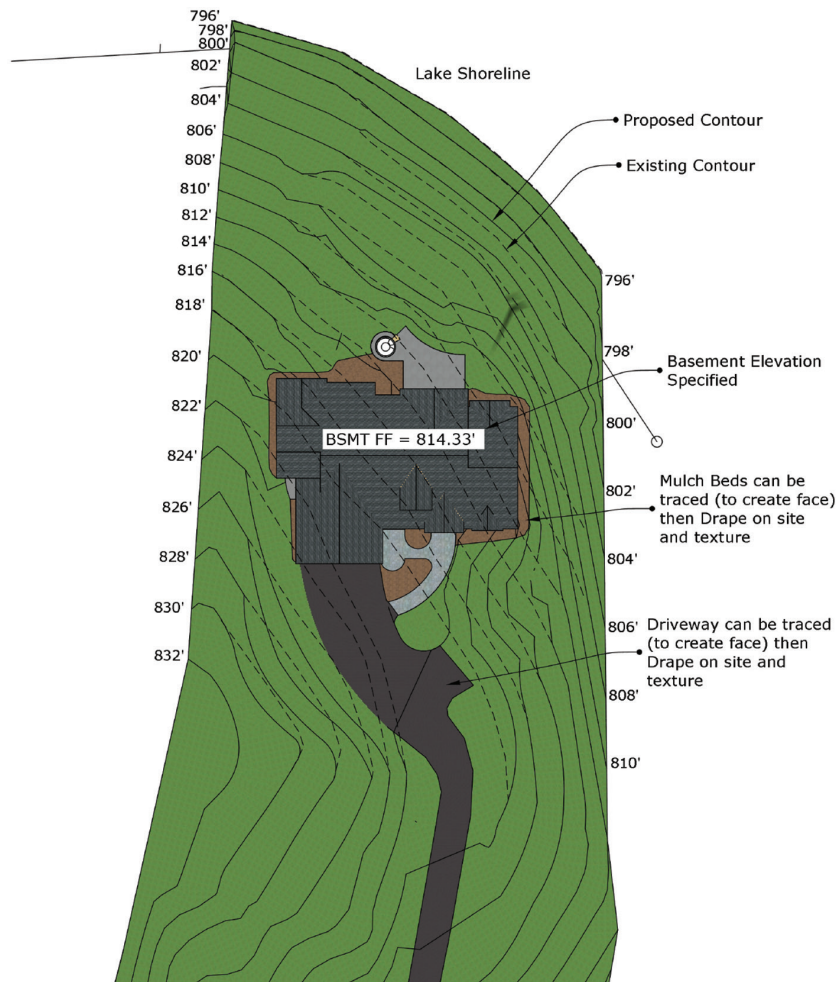

Figure 9.1 Site Plan.
The site plan in Figure 9.1 contains the necessary information that I need to model the property, model the existing contours, and fit the site to the building footprint at the specified elevation. (*Note: I always fit the site (rotate/move) to the building, not the building to the site—this keeps the building axes along the red and green at all times.*) I then copy all of the above to model the proposed site, trace the mulch beds and driveway faces (to Drape onto the proposed site to texture), which we will discuss later.
The site plan (Figure 9.1) shows existing and proposed contours. I mentioned shot points and point clouds earlier, but will not cover how to generate the model based on these points in this book. I will, however, demonstrate the use of Toposhaper (created by Fredo), which has a function allowing you to generate the surface mesh with these points, to create your existing site models based on contour lines. There are several YouTube videos and tutorials available to study how to do generate site meshes using shot points and point clouds. There are three basic ways to generate the contour lines we see in the preceding drawing.
1. The preferred method for generating contour lines is to acquire the 3D CAD file (DWG or DXF) containing these contours already in 3D or floating in the blue axis. In Figure 9.1, a project I designed and built myself, I was able to get the CAD file from my surveyor who performed the topographic analysis for me. So when I imported his DWG file into SketchUp, I had the 2D property outline down at the origin, and the existing contour lines were floating 800+’ above the origin, these are typically reflecting height above sea level, and the lake I build on is 795’ at full pond with property lines along the 800’ contour. Having this CAD file import saved me a lot of time moving